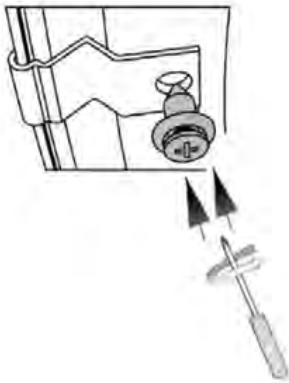

Fig 4
4. Insert (4) push type retainers through the metal mounting brackets, and into the hood. (Fig 4)